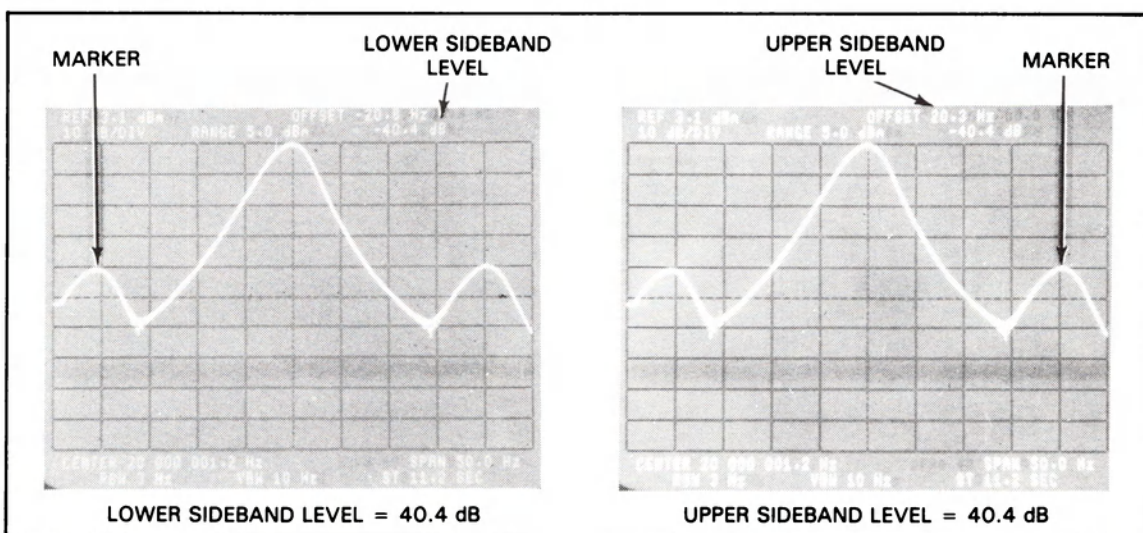

Figure 7-20. Upper and Lower AM Sideband Relative Levels
h. Measure the upper and lower sidebands and record their relative levels (dBc) on the Performance Test Record card for the 20 Hz, 2 Hz, and 0.2 Hz sideband frequencies. (See Figure 7-20)